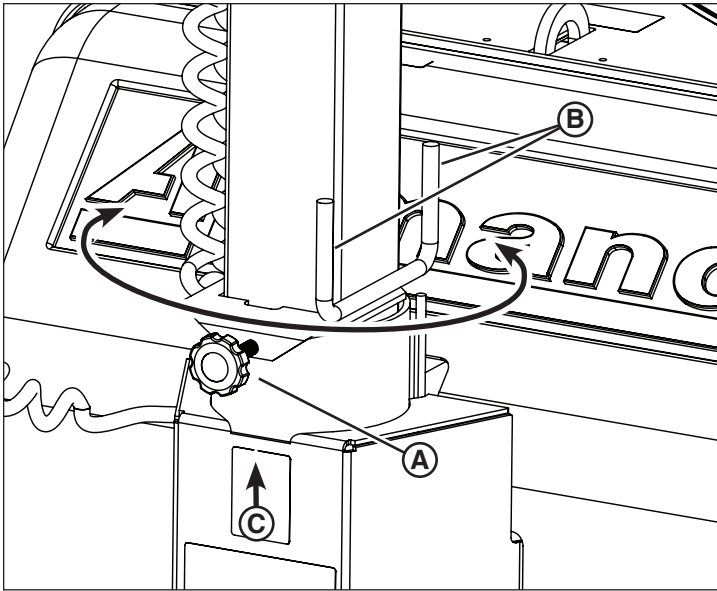

Figure 17
- Loosen the light tower locking knob (A, Figure 17).
- Using the handles (B, Figure 17), rotate the light tower in the desired direction.
- When lighting operations are complete, rotate the light tower to the transport position: Align the light tower locking knob with the front center of the light tower base (C, Figure 17). Be sure to tighten the light tower locking knob securely.